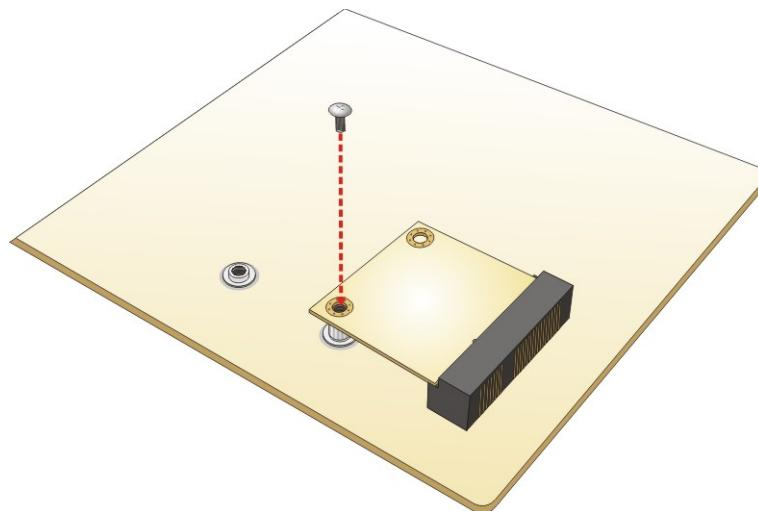

Figure 4-8: Securing the Half-size mSATA Module
Step 5: Secure the half-size mSATA module with the retention screw previously removed (Figure 4-8).